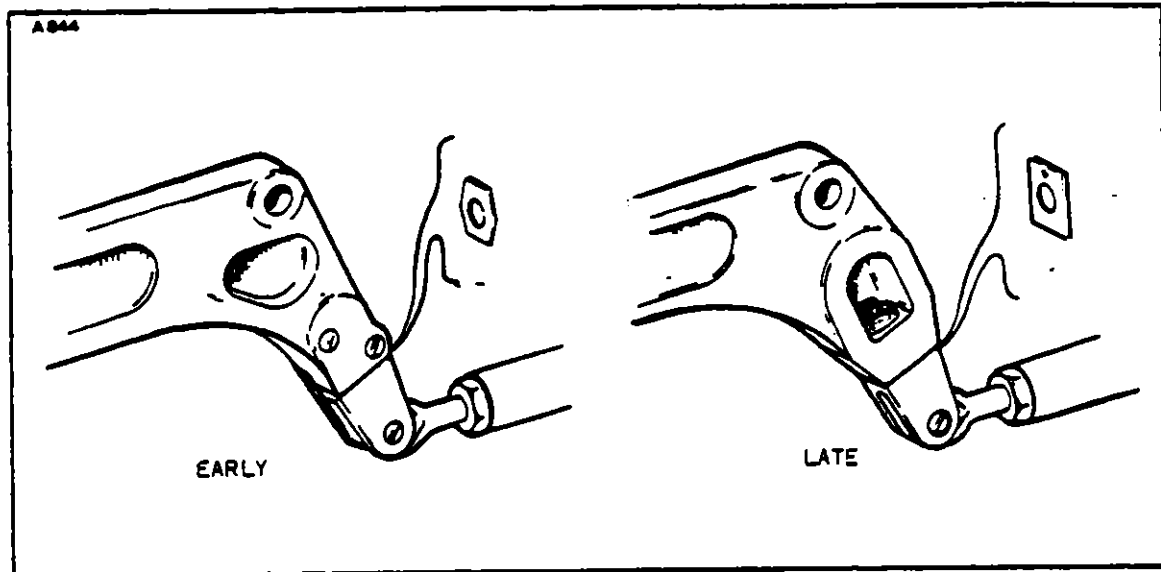

FIGURE 6-15. NOSE GEAR DRAG LINK CLEVIS
b. On early PA-24-180 and PA-24-250 airplanes, the clevis has a threaded stud which is screwed into the link assembly (refer to Figure 6-15.) A minimum of 1/8 inch and a maximum of 3/8 inch of shims may be installed. Shims are supplied in sizes of .016, .032, .064 and .125. The clevis torque must be from 13 to 40 foot pounds, properly aligned, with the counter-sunk hole side of the .064 and .125 shims against the radius of the clevis stud.
c. On late PA-24-180 and PA-24-250, and all PA-24-260 and PA-24-400 airplanes, the clevis has a locking nut applied to the threaded portion of the clevis stud (refer to Figure 6-15). Shims supplied with this clevis are .032 only and a maximum of three may be installed.